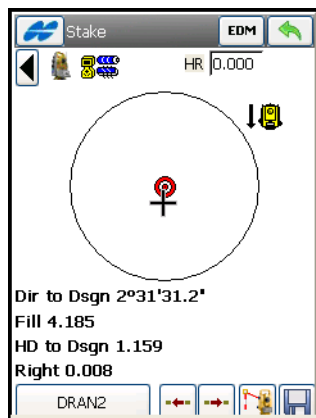

Figure 9-6. TS Stakeout
8. For TS: sight the prism. On the *Stake* screen (Figure 9-6 on page 9-6), use the  button to take a measurement and then show the current position relative to the design point.